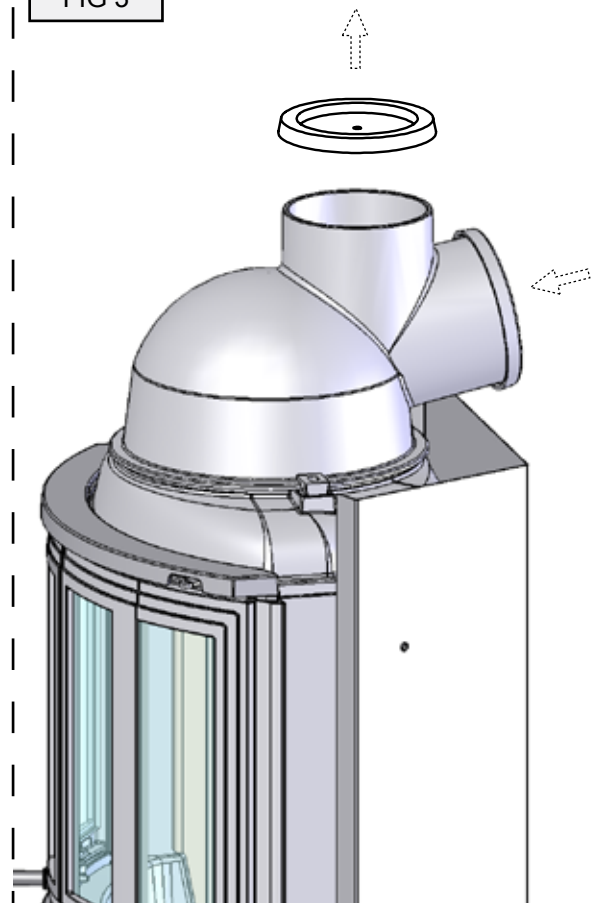

FIG 4^T
FIG 4: In case of inflammable flooring, the area inside the insert needs to be covered by a steel plate (1) that is at least 0,7 mm thick. Place the insert (2) as shown and connect the flue to the chimney.